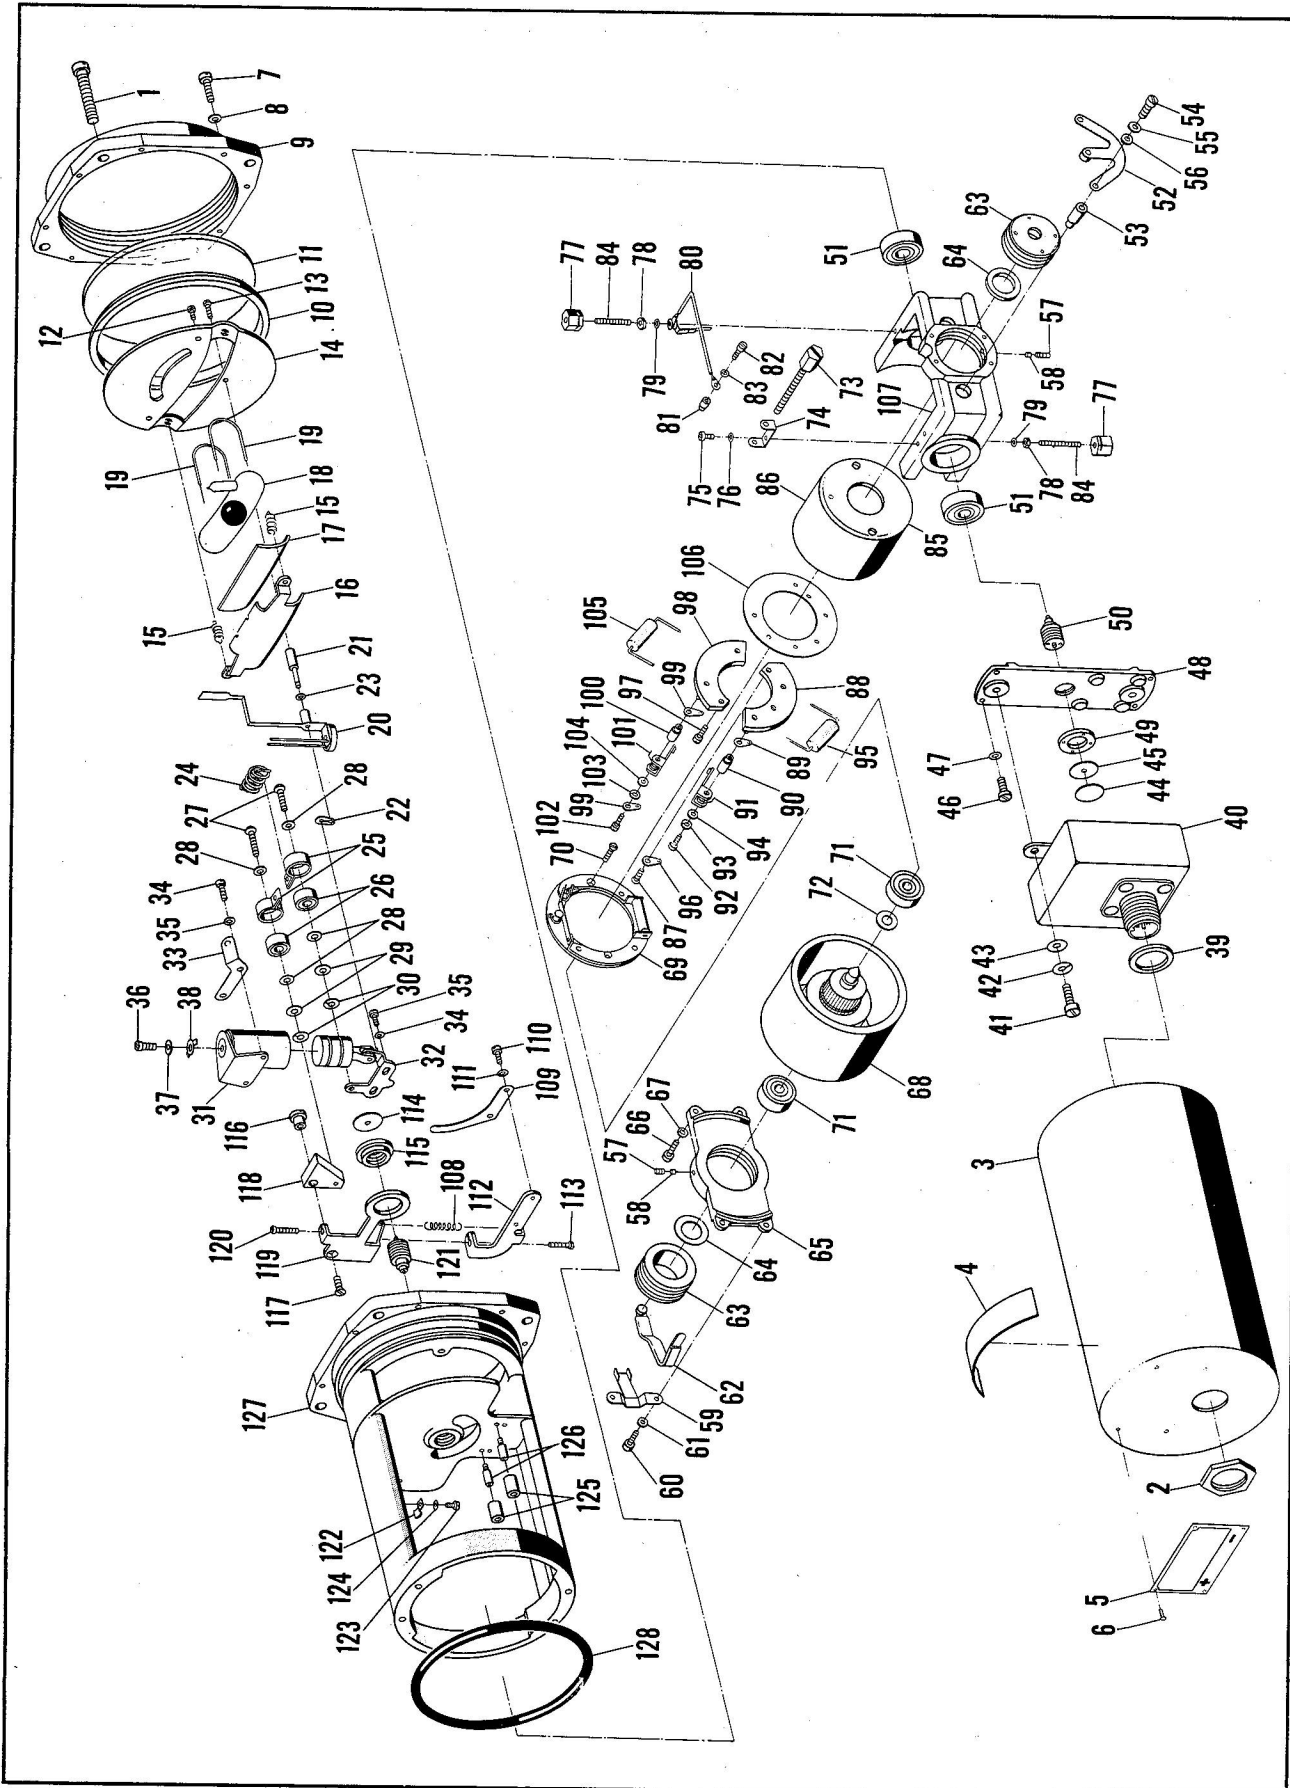
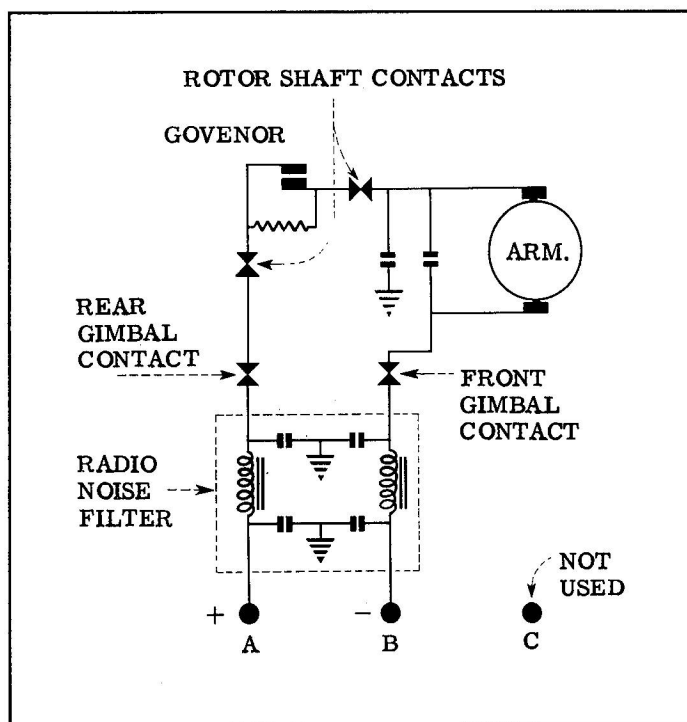

Figure 4-25. Bank and Turn Indicator Assembly, Model B4B-N
Figure 4-26. Wiring Diagram, Model B4B-N
DISASSEMBLY. (See figure 4-25.) Same as Model B4 except that filter assembly (40) replaces individual radio noise filtering components used on Model B4, and insulation (44) is used between insulating washer (45) and the filter assembly. The negative side of the electrical circuit is insulated throughout with insulation (81), and (114), and pivots (90), and (100). Condenser (105) is used between negative brush arm assembly (101) and ground. See figure 4-26 for wiring diagram. Rear plate (48) is mated to frame (127). Gimbal end (65) is mated to gimbal (107).
TEST PROCEDURE. Same as Model B4 except that pointer deflections must be within tolerances listed in Table XI. See figure 4-26 for wiring diagram.
KEY FOR FIGURE 4-25